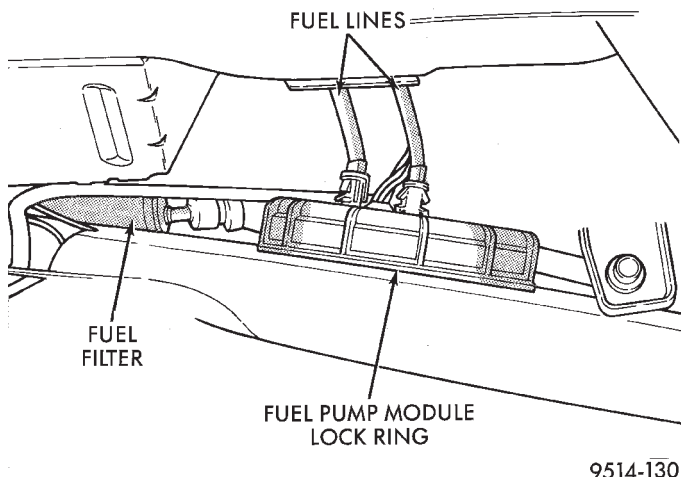

Fig. 16 Fuel Lines at Fuel Pump Module
(9) Disconnect fuel lines from fuel pump module (Fig. 16). These are quick connect fittings. Refer to Quick Connect Fittings in this section.